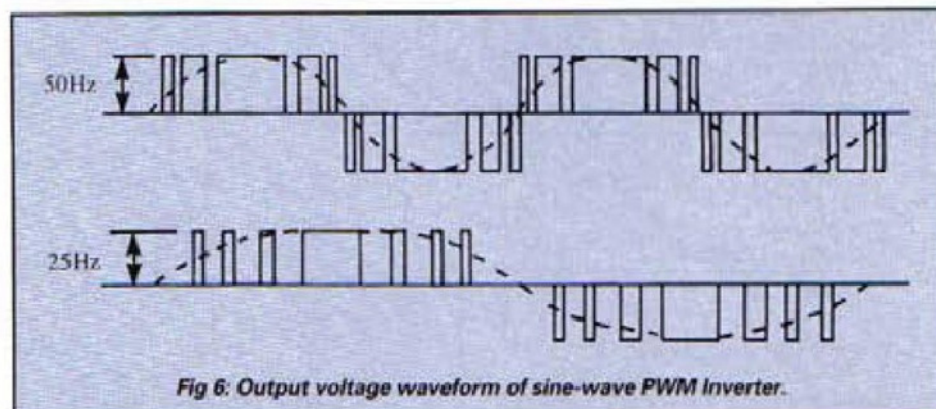

Fig 6: Output voltage waveform of sine-wave PWM inverter.
voltage. This is smoothed in the DC filter circuit (2) before being fed to the inverter (3) where it is inverted to a variable frequency and voltage in response to the inverter's operating controls. These processes are regulated by the control circuit (4). As the frequency is changed the ratio of applied motor voltage to frequency must be kept constant in order to keep the torque the same over the operating range. The frequency is controlled by supplying positive pulses in one half of the cycle and negative pulses in the next. The output voltage wave form of a sine wave pulse width modulation inverter is represented in **Figure 6**. It can be seen that the pulse widths (both positive and negative) are